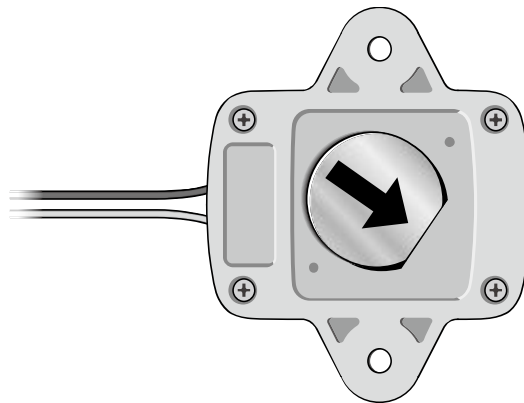

Figure 11 Insertion Direction
4. Insert the battery under the claw with the + electrode side facing upward, as indicated by the arrow in **Figure 11**.